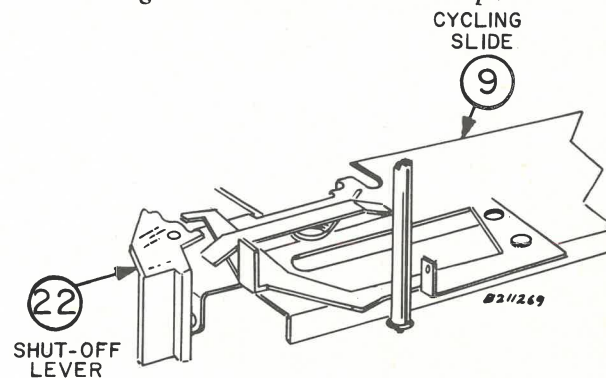

Figure 15—Stabilizer Arm Drops Further
At the completion of the last record the cycle of operation starts to repeat. Since the stabilizer arm shaft is in the downward position, the shut-off actuator is cammed inward as the cycling slide (9) moves outward, consequently the shut-off latch actuator (Fig. 15) misses the tab on the shut-off lever (22) allowing the pickup arm lever (42) and landing lever (35) to remain latched.